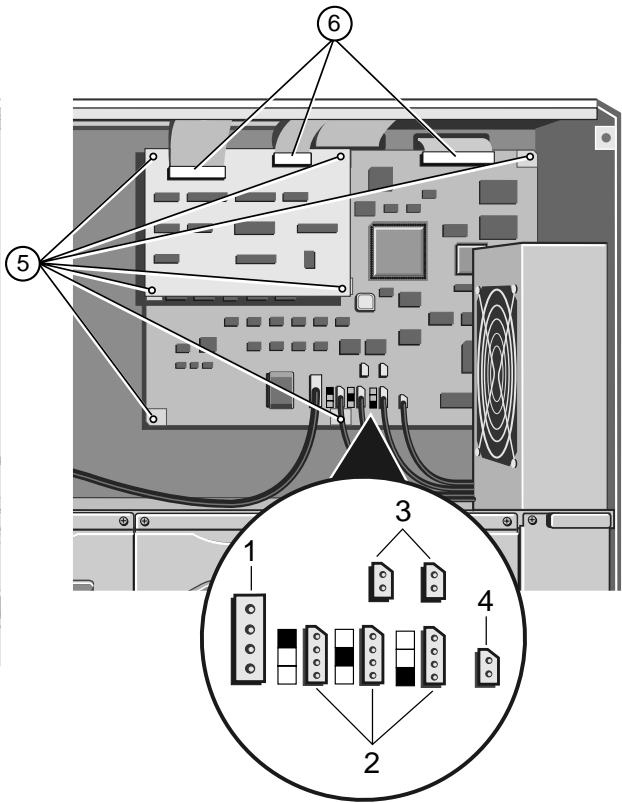

Figure 6-1 System Management Controller Board
5. Refit the remaining screws as shown in *Figure 6-1*.
6. Plug the ribbon cables, power cable, fan and associated thermistor cables and the keylock sensor cable into their respective connectors on the SMC board as shown in *Figure 6-1*.